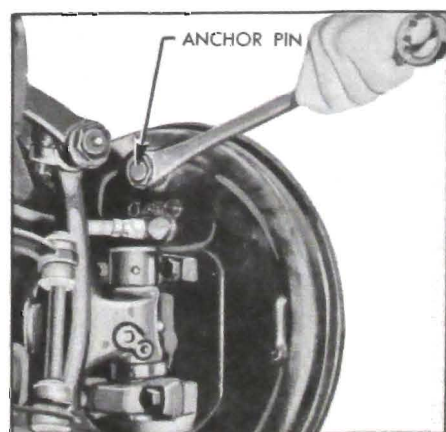

Figure 9-9—Using Anchor Pin Nut Wrench J 854
J 854 to make certain nuts are tight. See figure 9-9. If an anchor pin nut is found loose, reset anchor pin as instructed in paragraph 9-10, step 19 otherwise *do not disturb anchor pins.*
14. Check all backing plate attaching bolts to make sure they are tight. Check anchor pin nuts for tightness, using Wrench J 854 (fig. 9-9). If an anchor pin nut is found loose, anchor pin must be reset as described later (step 19).
(b) Use Wrench J 854 (fig. 9-9) to loosen anchor pin nut just enough so that pin can shift in slotted hole in backing plate. If nut is loosened too much, the anchor pin will tilt due to pull of brake shoe springs.